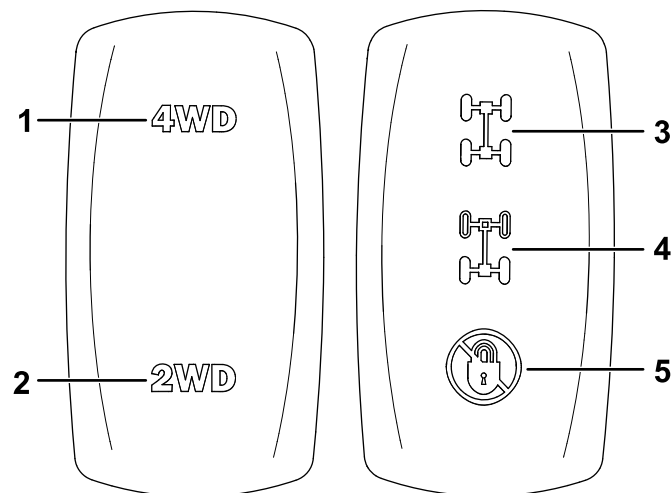

Figure 48
2. Press the 2-wheel drive/4-wheel drive switch (Figure 48) up to engage 4-wheel drive.
With your foot off the accelerator pedal, disengage 4-wheel drive by pressing the 2-wheel drive/4-wheel drive switch to the down position (Figure 48).
2. Press the differential-lock switch to the mid position to engage the rear differential lock (Figure 48).
Press the differential-lock switch to the up position to engage the front and rear differential locks (Figure 48).
With your foot off the accelerator pedal, disengage the differential lock(s) by pressing the differential-lock switch to the down position (Figure 48).